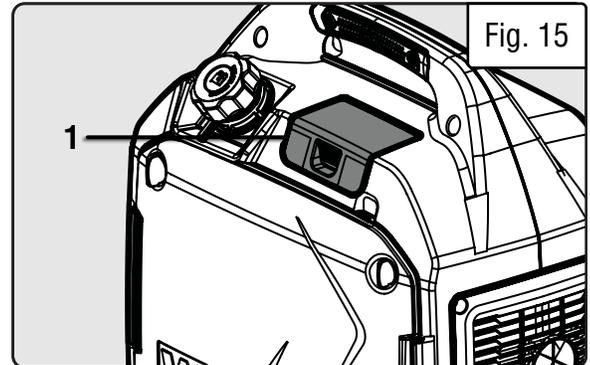

Fig. 15
1. Open the spark plug access cover (Fig. 15 - 1).